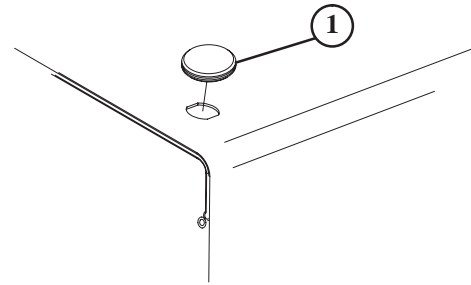

Figure 2
1. Remove plug from hole in left front corner of hood (Fig. 2).